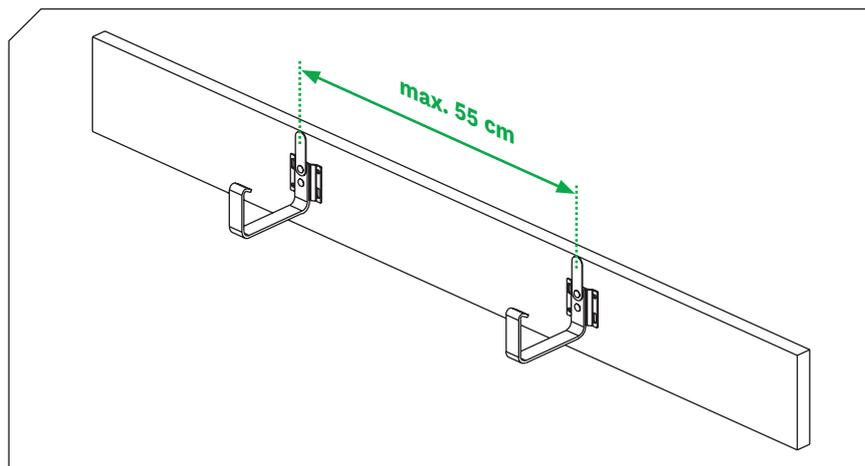

Figure 3
- 2.2 The bracket spacing recommended by the manufacturer is **55 cm**. (Figure 3)